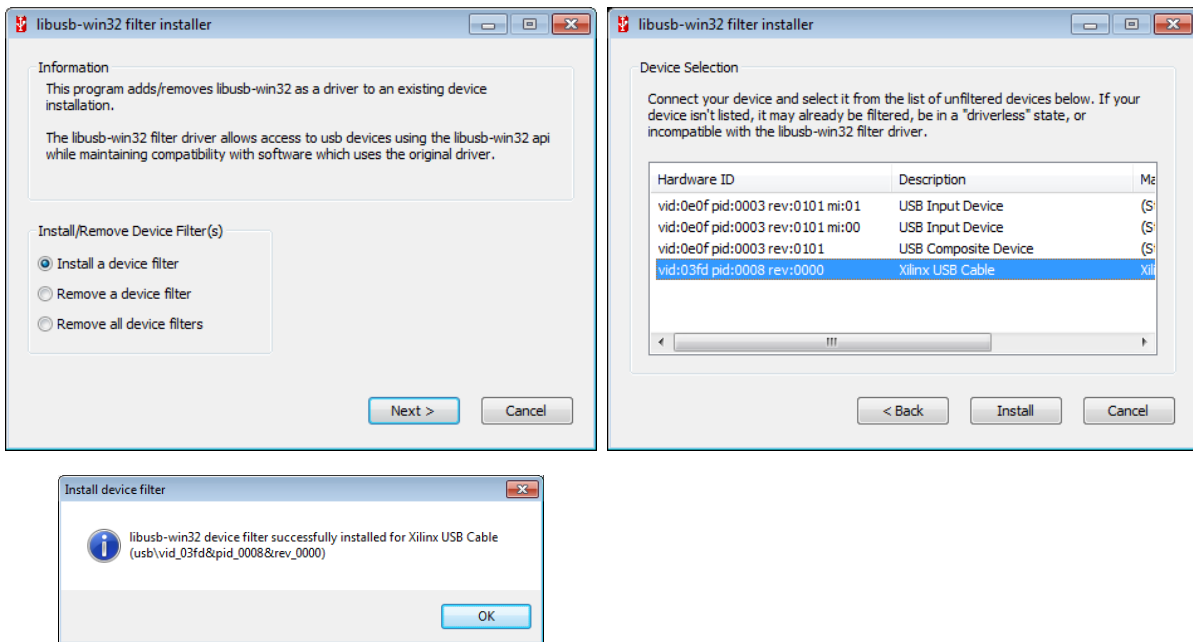

Figure 4.2.
4. At the first dialog, as seen in Figure 4.2, choose 'Install a device filter' and press **Next**.